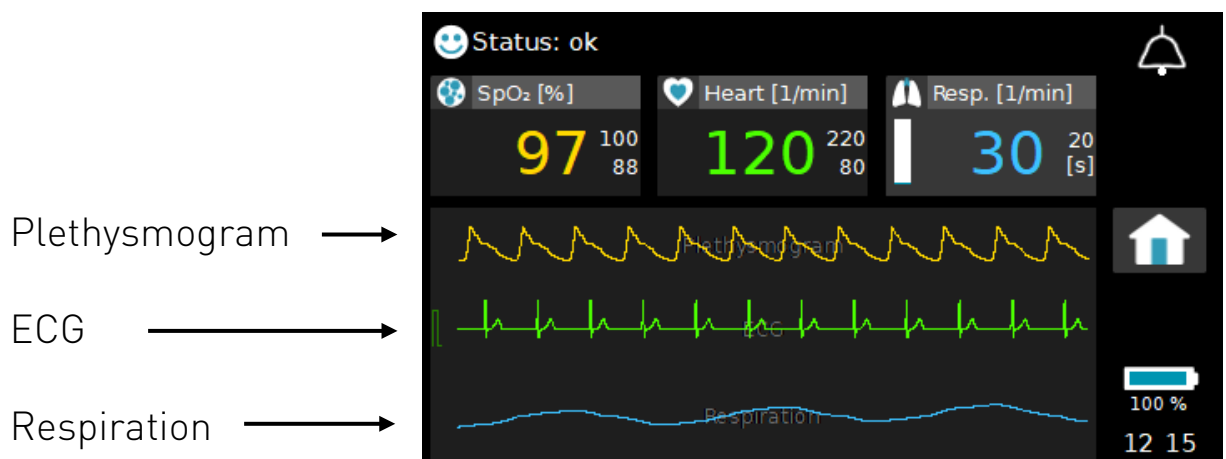

Fig. 46 View 3 Screen Content
**View 3** content shown in Fig. 46 is similar to **View 2**. The main differences are that the current values for SpO2, heart rate / pulse rate and respiration rate together with their corresponding alarm limits are displayed along the top of the screen and the three corresponding waveforms are displayed across the whole width of the screen.